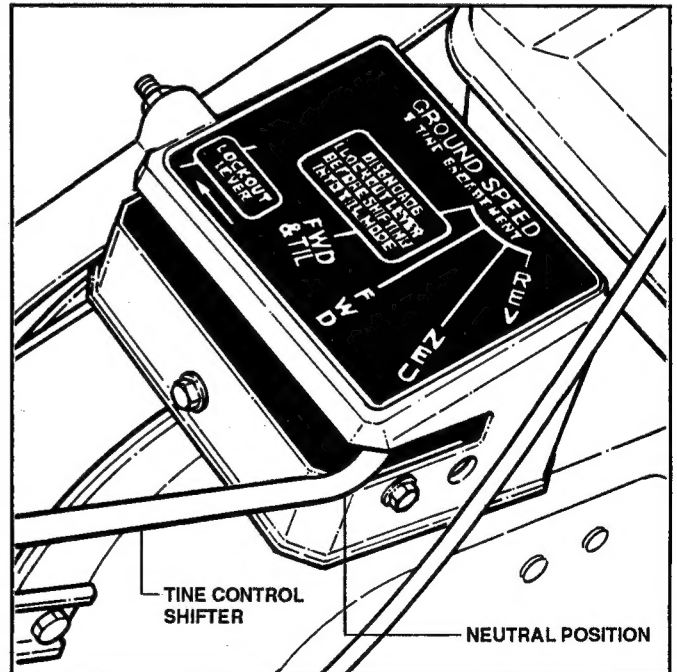

FIGURE 4
STEP 1: Shift the transmission into NEUTRAL and make sure WHEEL & TINE CONTROL is in released position. See Figure 4.